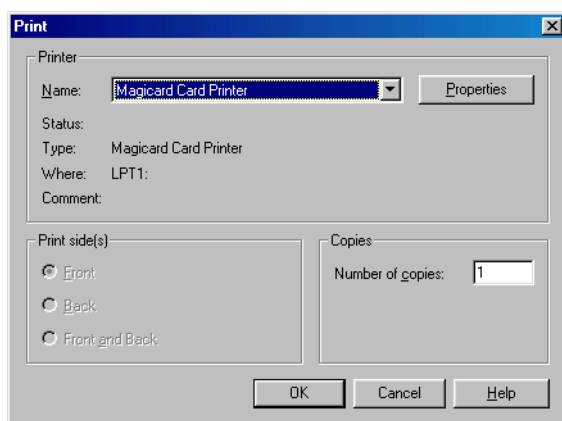

Figure 5: The Print Window
2. Click the File ⇒ Print pull-down menu option. The Print window appears (see Figure 5).